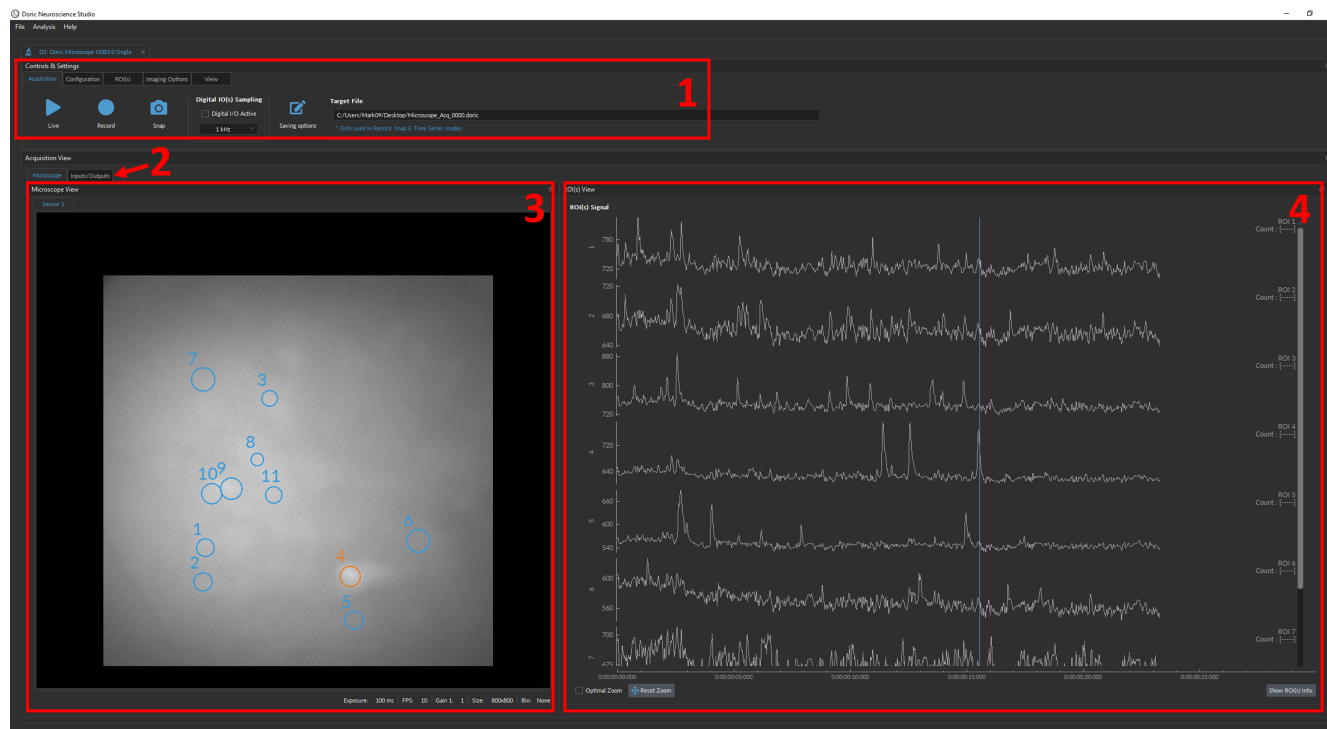

Figure 7.6: Doric Neuroscience Studio user interface
The **Microscope Driver** interface (Fig. 7.6) of *Doric Neuroscience Studio* software is split into two sections: **(1) Controls and Settings tabs** (Section 7.3) are used to manage different elements of the software (Acquisition, Configuration, and View); and **(2) the Acquisition view** (Section 7.5) allows simultaneous visualization of both the **Microscope View** (Section 7.5.2) and the **ROIs View** (Section 7.5.3).